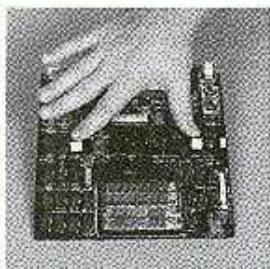

Figure 2-9
- a. Install the two rubber bumpers as shown in Figure 2-9. Attach one bumper to the "VIA" chip at board location D11. Attach the other bumper to the "TSG" chip at board location D3.